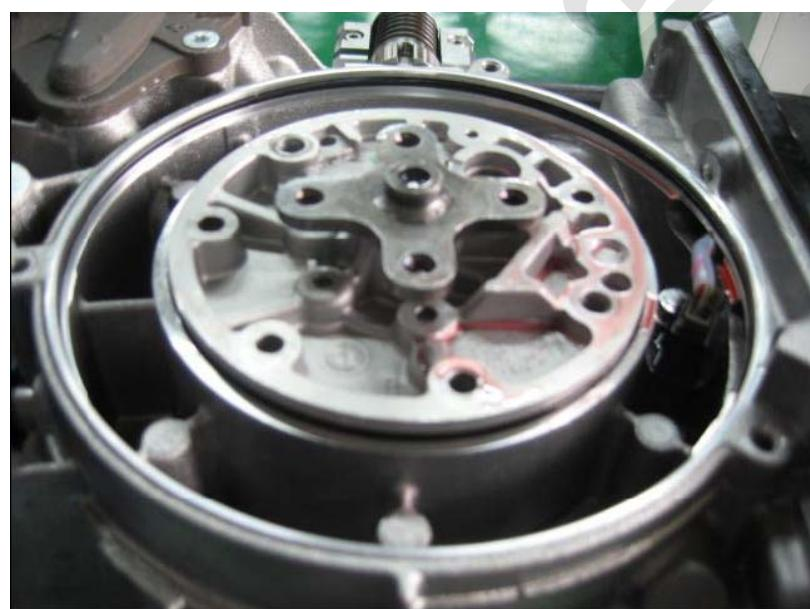

Fig. 14-1: Drive cone wheel speed sensor
- Loosen the bolt and take out the sensor (see Fig. 14-1)